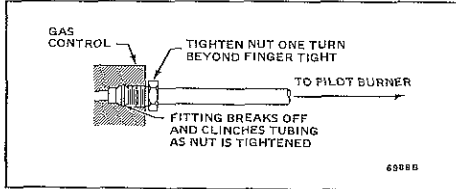

Fig. 6—Always use new compression fitting.
4. Push tubing into the pilot gas tapping on the outlet end of the control until it bottoms. While holding tubing all the way in, slide compression fitting into place and engage threads—turn until finger tight. Then tighten one more turn with wrench. Do not overtighten. Refer to Fig. 6.